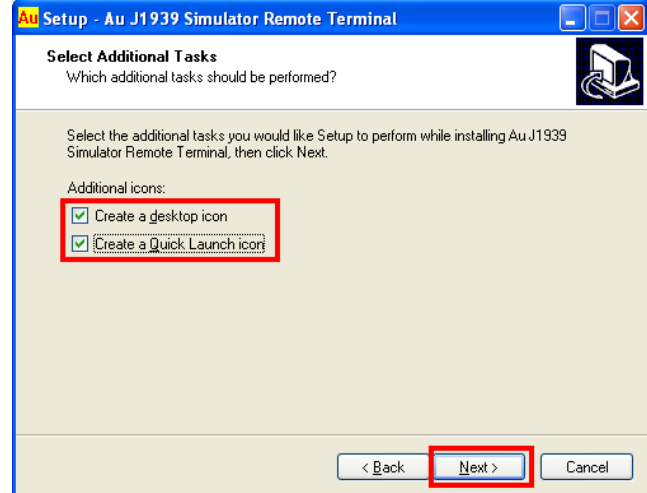

Figure A-7
7. "Select Additional Tasks" window pop up, check both "Create a desktop icon, and Create a Quick Launch icon", click "Next" to continue (Figure A-7).